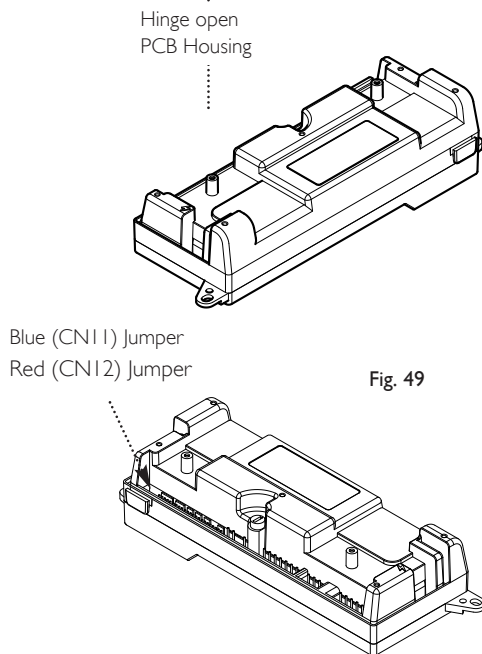

Fig. 49
4. Ensure that the two jumpers are fitted to the new PCB as shown (Fig. 49).